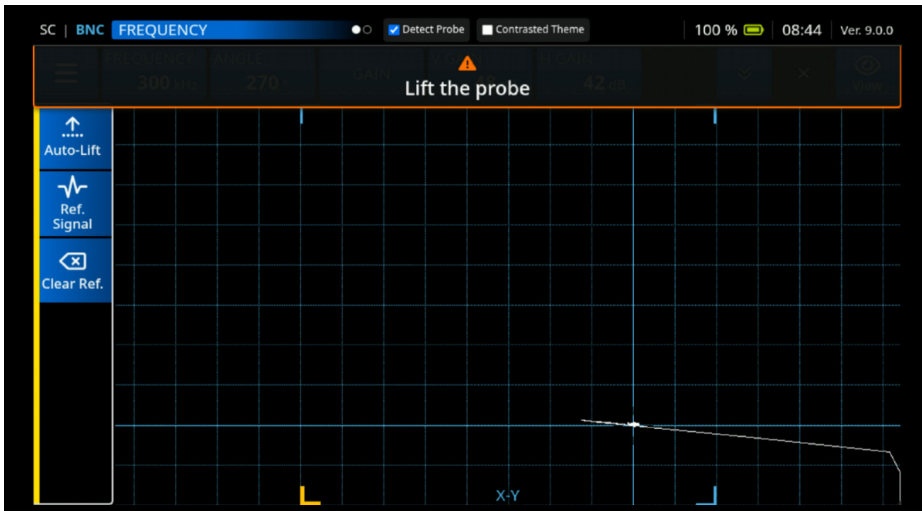

Figure 3-7 Auto-Lift Selected
3. Press **Auto-Lift** (See Figure 3-7 on page 51).